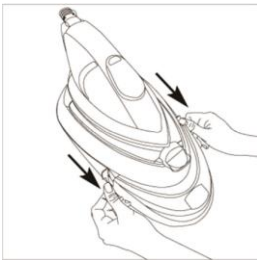

Figure9
1. Pull the water tank out (Figure 9).